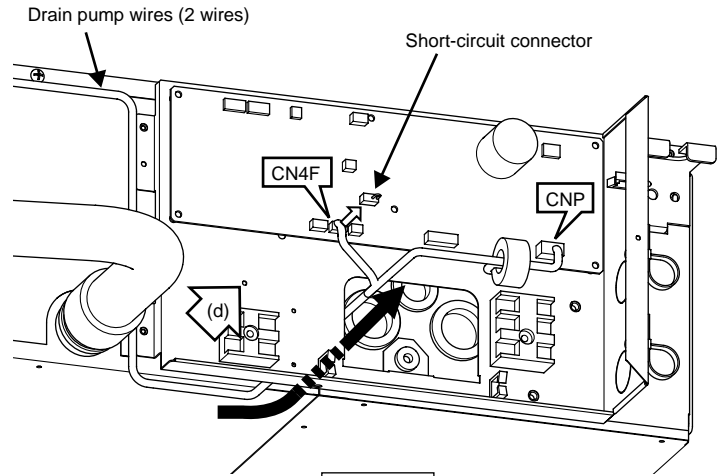

Fig. 8
- (3) Remove the short-circuit connector from CN4F on the control board (white, 4P). (Fig. 8)
- (4) Route the two drain pump wires behind the CONTROL BOX and into the CONTROL BOX. Lift the CONTROL BOX in the direction of the arrow (d) to allow the wires through. (Fig. 8)
- (6) Connect the drain pump wire (connector: blue, 3P) to CNP on the control board, and connect the float switch wire (white: 4P) to CN4F on the control board respectively. (Fig. 8)